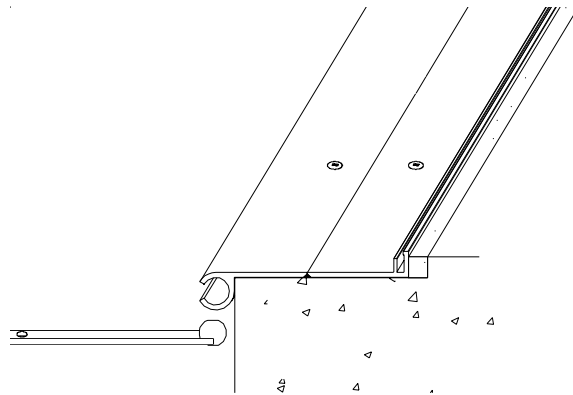

Figure 8
STEP 13. Using the notch provided in the center of each section of the installed base member, insert one of the centering bar's spheres into the base member's track on one side of the joint. Insert the other centering bar sphere into the opposite base member's track (see Figure 8). Repeat this procedure for each centering bar in the section.